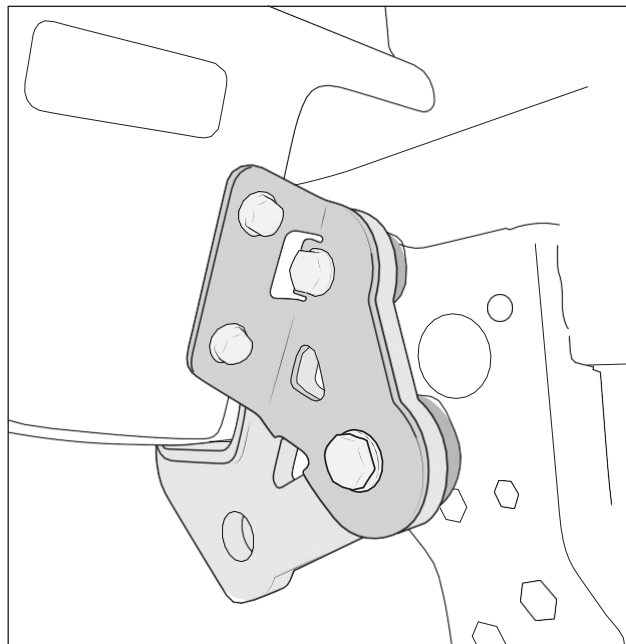

Figure 34
2. Locate the two black M10x45mm hex bolts, washers, and thin 10.7mm (.42") spacers. If equipped with full width EX corners, rotate the corner reinforcement bracket into position. Begin feeding the M10 bolt and washer through from the outside, and sandwich the spacer between the tow loop and bumper reinforcement bracket. Thread the bolt into the factory weld nut in the frame and tighten until snug. On EX Corners, install M8 bolts and washers from corner kit and torque to 20 ft-lb (fig. 34). Torque M10 tow loop bolts to 30 ft-lb (fig. 35). Torque side M12 tow loop hardware to 90ft-lb.